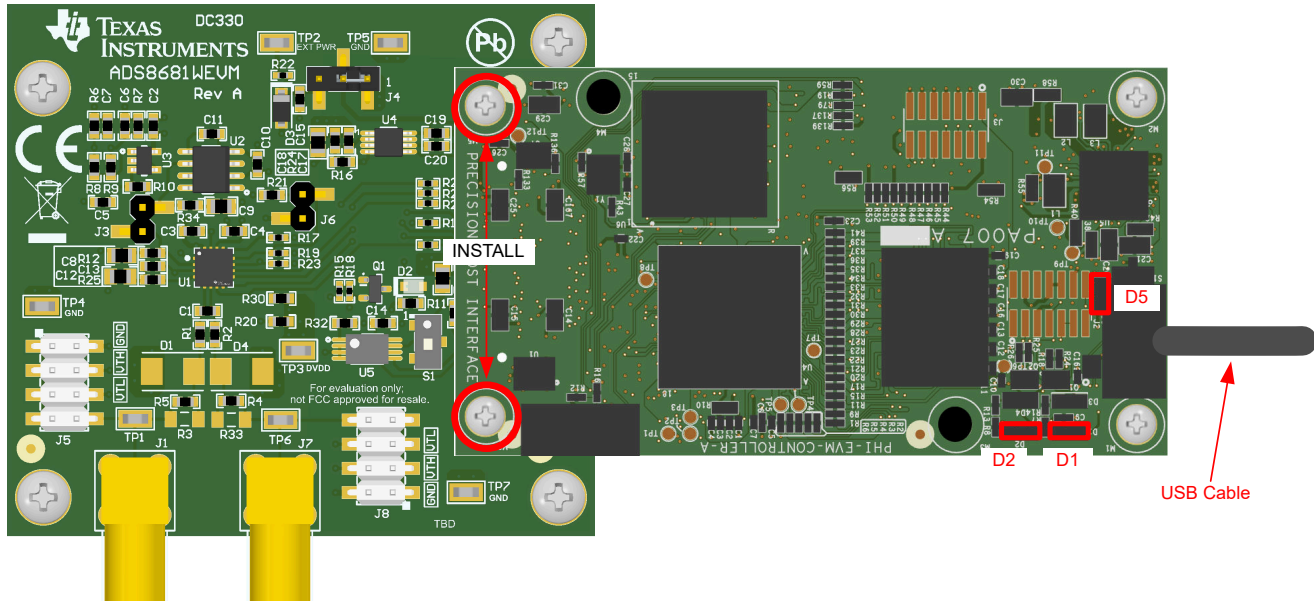

Figure 4-1. EVM-PDK Hardware Setup and LED Indicators
1. Connect the ADS8681WEVM to the PHI. Install the two screws as indicated in Figure 4-1.